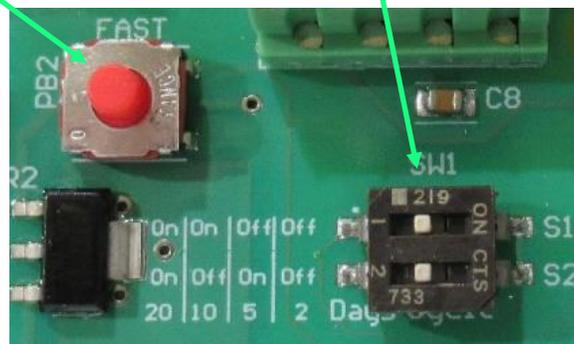

Figure 5 – Cycle DIP Switch & Fast Mode
5. See Table 2 and Figure 5 below for combinations of S1 and S2 positions for desired cycle frequencies. (Switch pictured set for 5-day cycle: S1-OFF, S2-OFF).